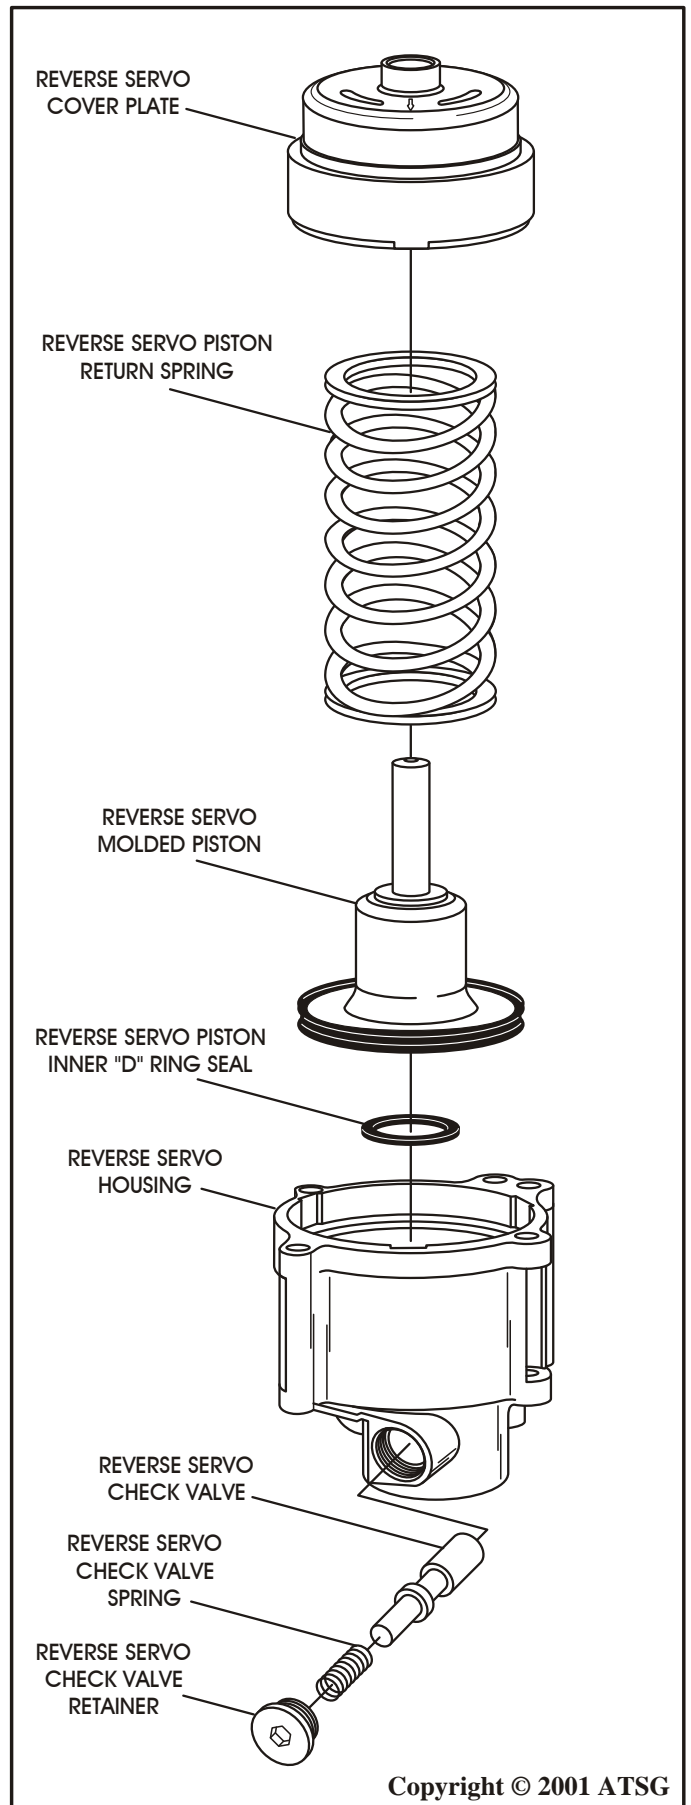

Figure 121
1. Disassemble the reverse servo assembly using Figure 121 as a guide.
Note: *The reverse servo piston has a molded seal, as shown in Figure 121. Replace the piston assembly as necessary.*
5. Remove and discard the reverse servo piston inner "D" ring seal from the servo housing, as shown in Figure 121.
6. Remove and inspect the reverse servo check valve and spring, as shown in Figure 121.